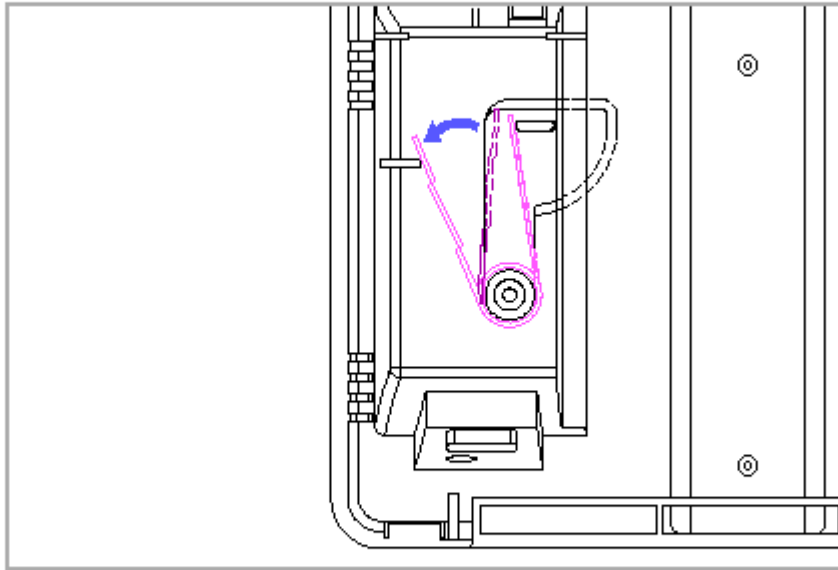

Figure 9-58. Installing the Horizontal Guide (Eject Switch Side)
4. Keeping the spring compressed, place the horizontal guide over the horizontal guide pivot post in the top cover and the curved surface of the horizontal guide into the horizontal guide slot and release the spring (Figure 9-58).